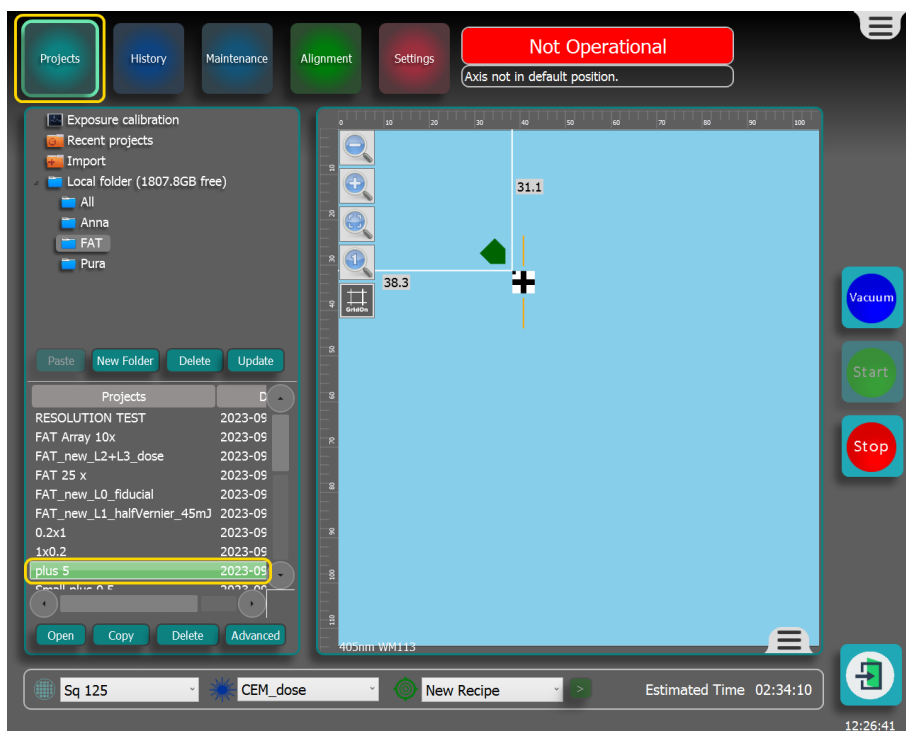

Figure 3-105 Project window
1. Select **Projects** in the top bar, see Figure 3-105.